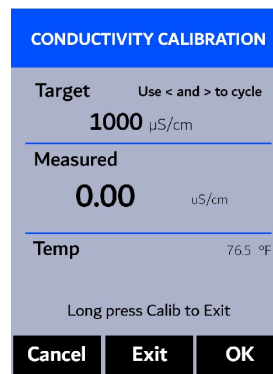

Figure 22.
6. Use **(<)** and **(>)** to cycle to the desired calibration, for example, 1,000 μS (Figure 22). The standard conductivity selections are 10, 100, 1,000, 7,000, and 50,000 μS .